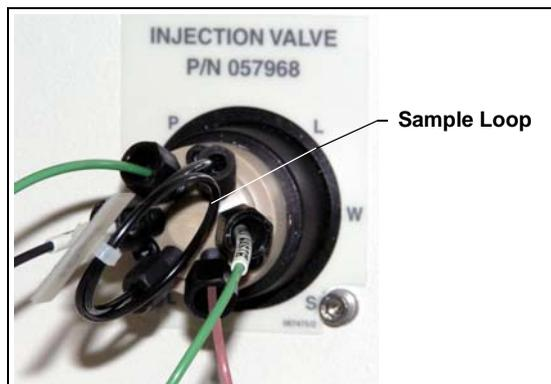

Figure 5-3. Dionex Easion Injection Valve
3. Disconnect the sample loop from ports **L** and **L** on the injection valve (see Figure 5-3).